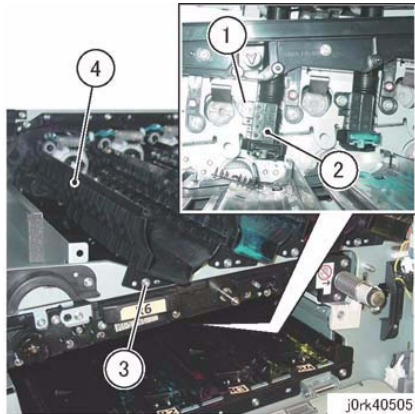

Figure 4 Dispenser Assy (K) Removal
7. Remove the Dispenser Assembly (K). (Figure 4)